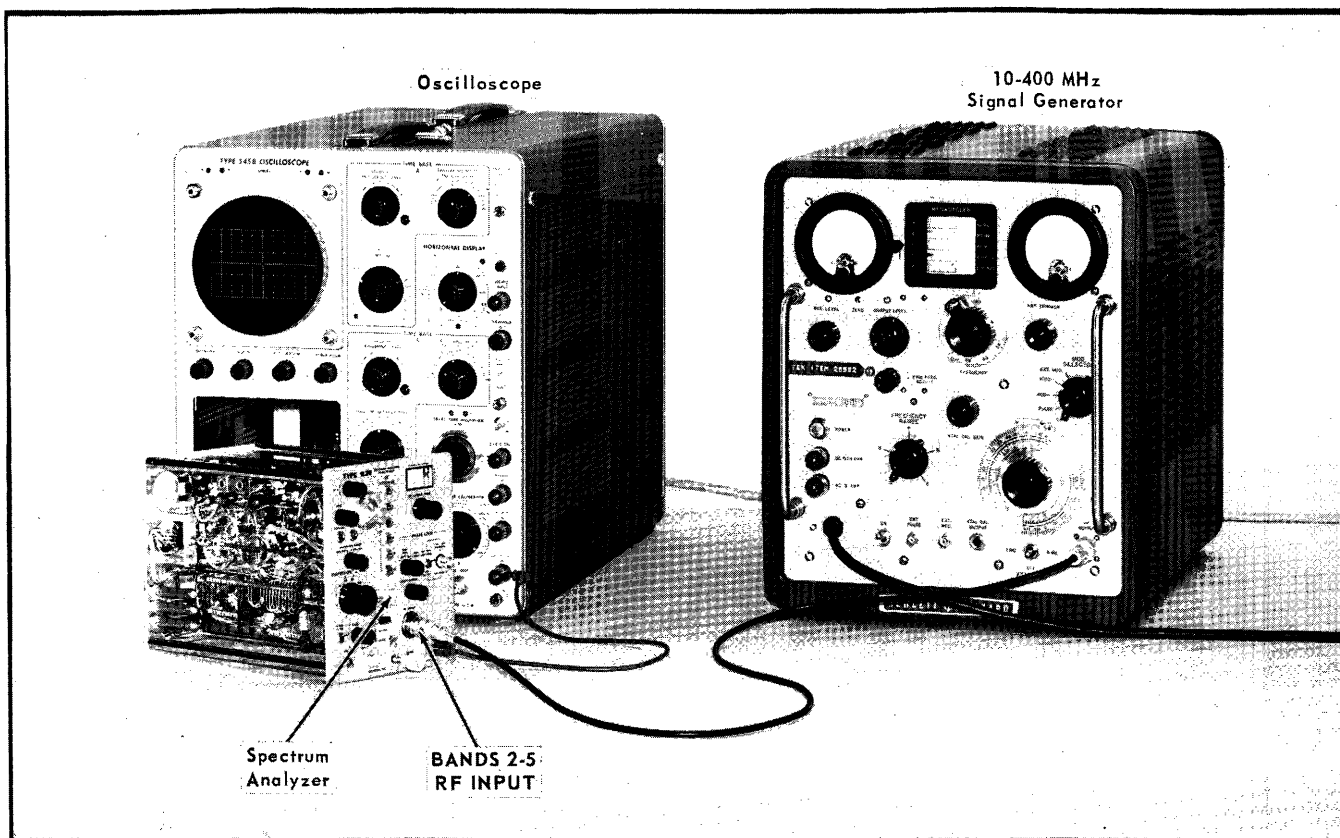

Fig. 6-14. Setup for checking RF CENTER FREQ Calibration and Phase Lock (Step 8).
- Connect the equipment as shown in Fig. 6-14.